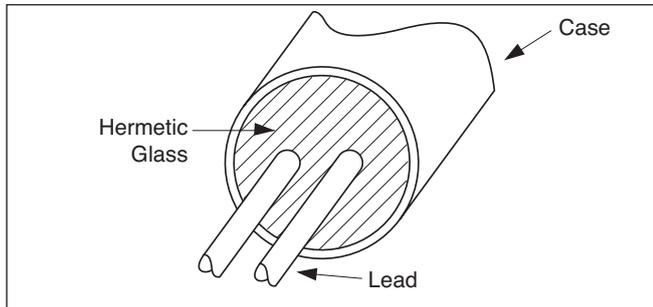

Figure 1
Tubular crystal units (VT) are hermetically sealed using glass (see Figures 1 and 2).